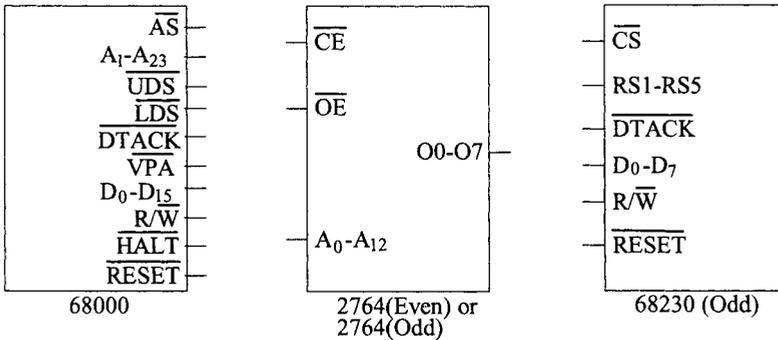

FIGURE P10.33
- 10.33 Assume the pins and signal shown in Figure P10.33 for the 68000, 68230 (ODD), 2764 (ODD and EVEN). Connect the chips and draw a neat schematic. Determine the memory map and I/O map (Addresses for PGCR, PADDR, PBDDR, PACR, PBCR, PADR, PBDR). Assume a 16.67-MHz internal clock on the 68000.